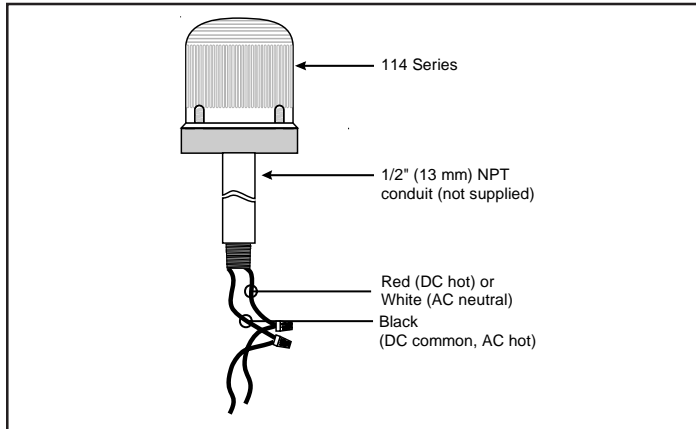

Figure 1. Conduit Mounting
### Conduit Mounting (Figure 1)
3. Using wire nuts (not supplied), connect the signal's wire leads as shown in Figure 1. Polarity must be observed.
1. **Conduit Mounted Modules:** Disconnect wiring and, if necessary, unscrew base from conduit (Figure 1).